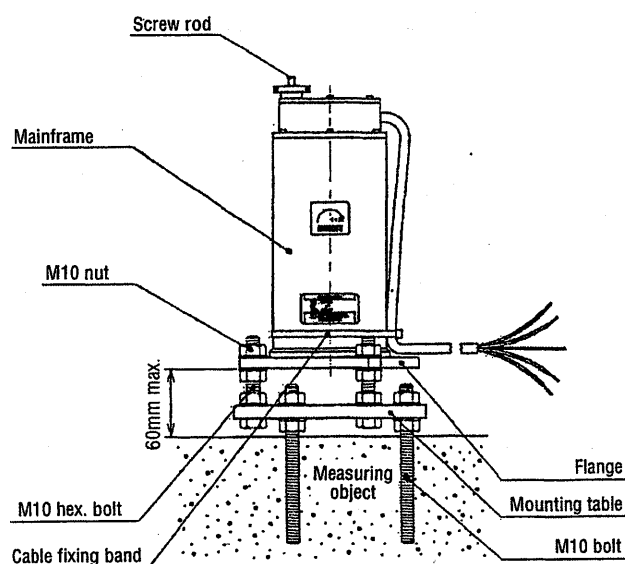

Fig. 1
- (1) Make sure the stopper mechanism is effective, that is, the screw rod at the top is wholly hidden. If it comes out from the knurled knob, let it descend by turning the knurled knob to the left (refer to 5.3).
- (2) Prepare the mounting table and fix it onto the measuring object in advance (see Figs. 1 and 2).
- (3) The gain direction of BKK-A is decided by the marking on the flange (see Fig. 4.2, 4.3). Making sure of the gain direction, pass the M10 bolt of mounting table through the U-notch on the flange of BKK-A. Then temporarily fix the mainframe with the M10 nut and washer (see Fig. 1).
- (4) Put a level on the top or the flange of BKK-A and adjust the M10 nut up and down so that the BKK-A is placed in horizontal condition. (Leave the mainframe as fixed temporarily.)